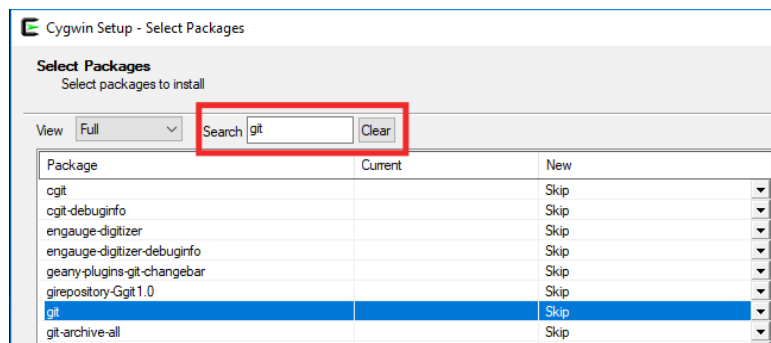

Figure 87. Look for the `git` package
- Look for the `git` package in the **Search** box (Figure 87).